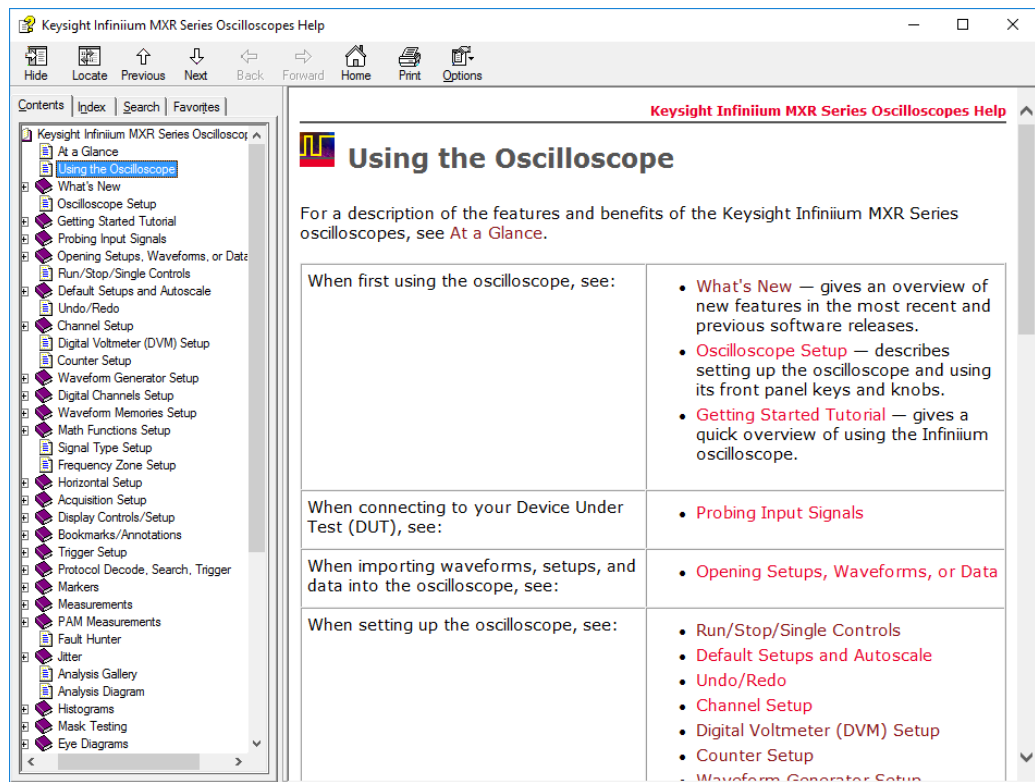

Figure 25 Online Help home page
- Choose **Help > Contents...** from the main menu to open the online help home page (**Figure 25**).